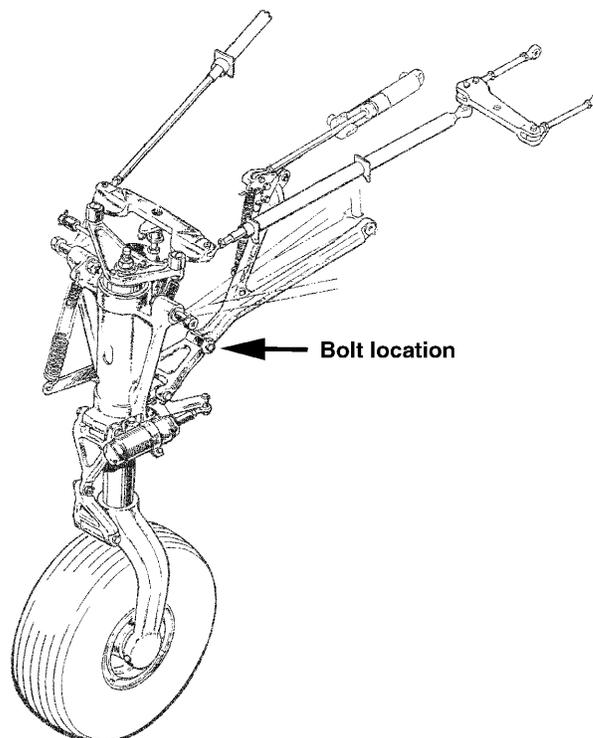
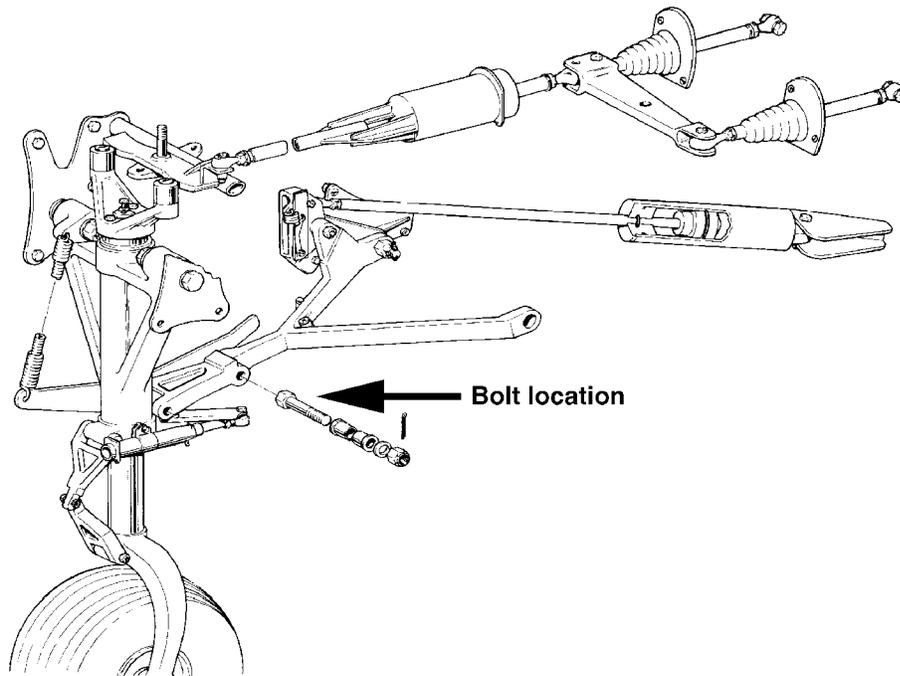

Figure 1
Figure 2
2. Disassemble Upper Drag Link from Lower Drag Link, by removing the NAS464P4-27 bolt that functions as a hinge pin for the two parts. See Figure 1 or Figure 2 as applicable. Discard bolt and cotter pin, regardless of condition. Nut and washers may be reused, depending on condition.